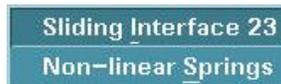

Figure 9.1.4 Draw Bead Type
- The draw bead force can be modeled in two different ways in an LS-DYNA simulation, see Figure 9.1.4.